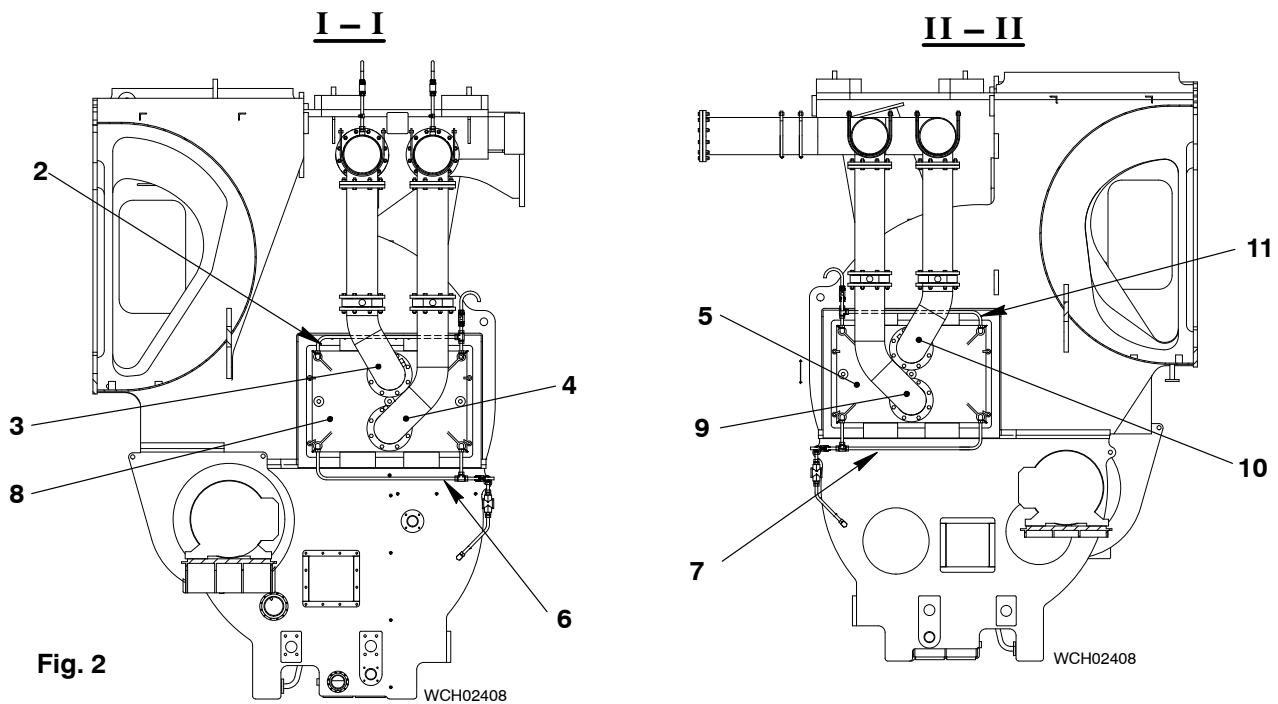

Fig. 2
**Note:** For Views I-I and II-II, see Fig. 2.